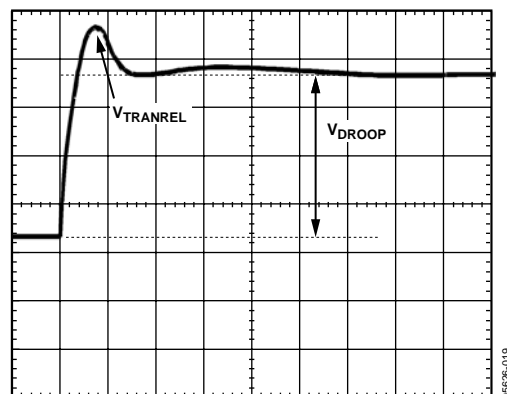

Figure 19. Transient Setting Waveform
20. For load release (see Figure 19), if  $V_{TRANREL}$  is larger than the allowed overshoot, there is not enough output capacitance. Either more capacitance is needed, or the inductor values need to be made smaller. (When changing inductors, start the design again using a spreadsheet and this tuning procedure.)